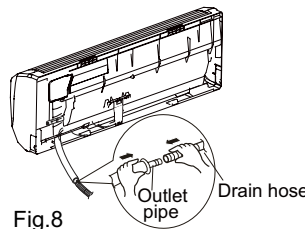

Fig.8
- (1) Connect the drain hose to the outlet pipe of indoor unit. (As shown in Fig. 8)